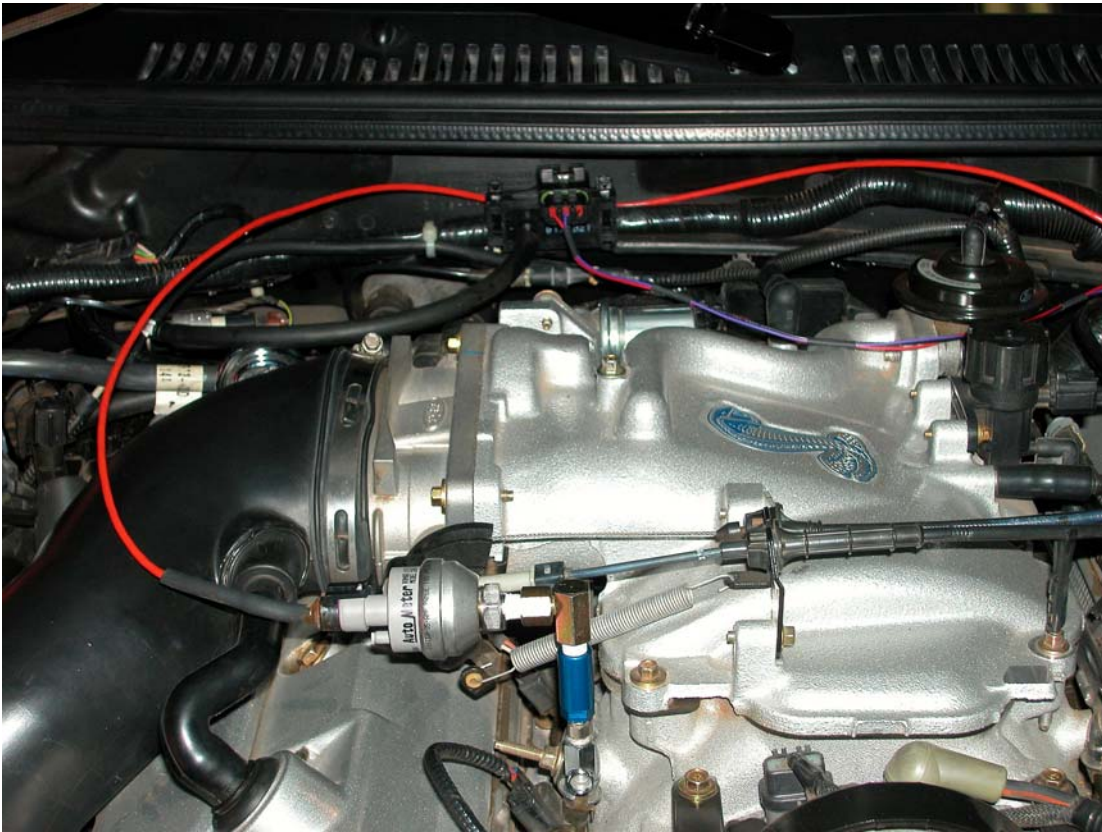

Figure 2 Fuel pressure and vacuum/boost sending units
11. Now, connect the wiring harnesses to the sending units and run the harnesses to the factory grommet in the firewall along paths of your choosing. (Refer to Figure 2, below.)